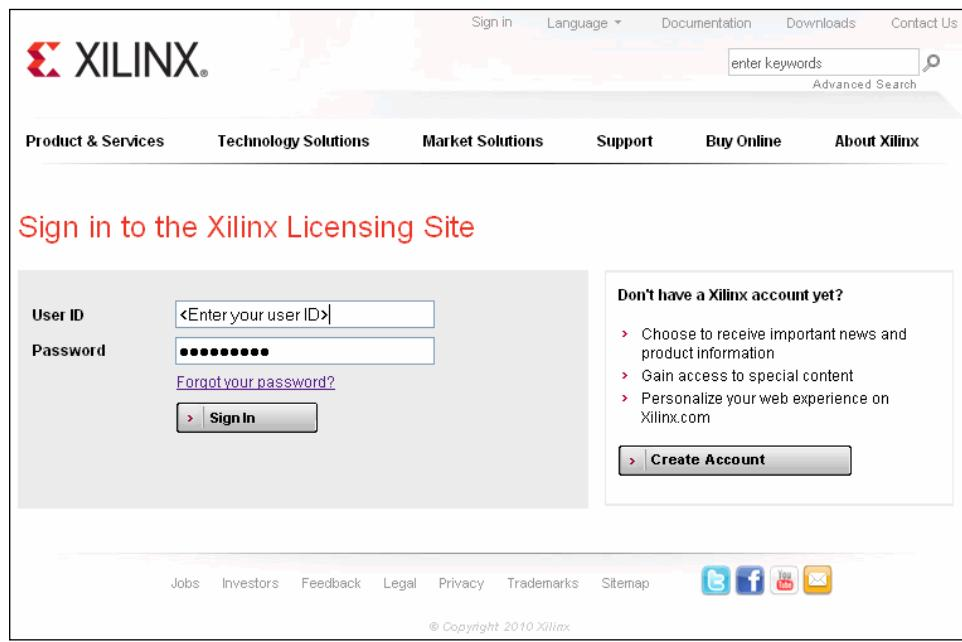

Figure 1-62: Licensing Site Sign-In Page
1. Go to www.xilinx.com/getlicense/ (Figure 1-62).